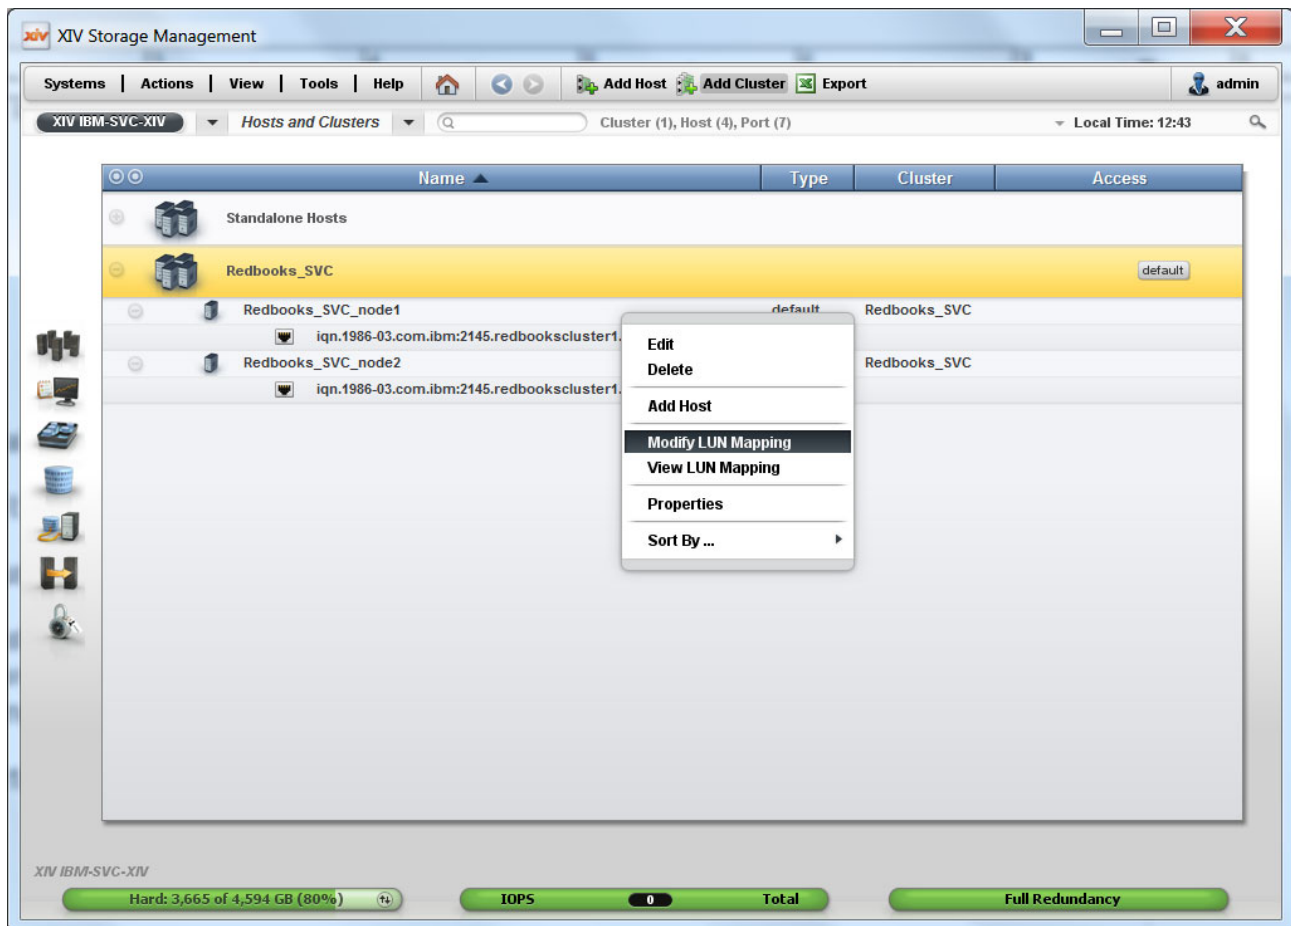

Figure 13-10 Modifying the LUN mapping in the XIV GUI
1. In the Hosts and Clusters configuration window, right-click the cluster of your initiator nodes to which the LUN is to be mapped and select **Modify LUN Mappings** (Figure 13-10).